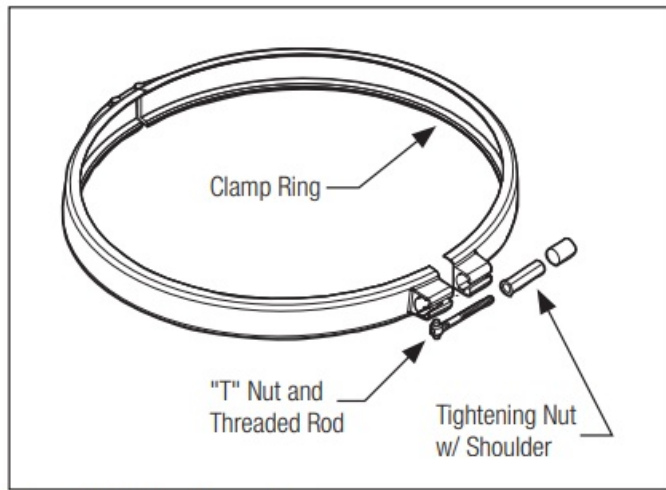

Figure 9. Filter Clamp Ring
3. Place the "T" nut and threaded rod assembly into the clamp. Be sure the "T" nut is seated in the clamp in the proper orientation. See Fig. 9.
4. Use a 9/16" socket on the tightening nut until the clamp ring halves touch each other, or are within 1/16", see Fig. 9 but do not overtighten as the clamp can break. If unable to tighten as indicated, do not operate the filter and call a service technician immediately.
3. Check that the tank clamp is correctly seated and tight. See Figs. 9 and 10.